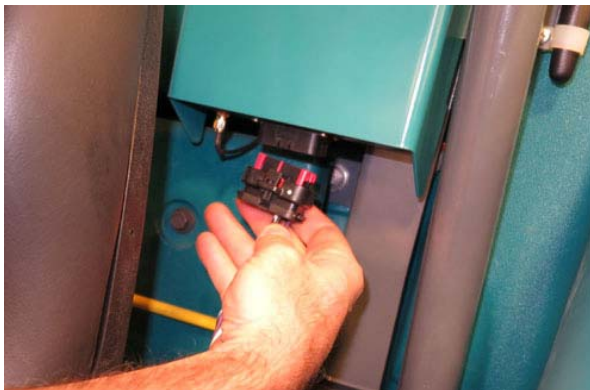

FIG. 15
20. Connect the telemetry harness (14) to the control box (1). (Fig. 15)